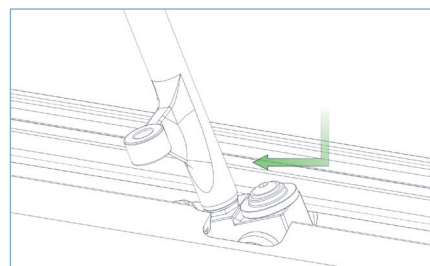

FIG 6B
- ▶ **6.2.** Place the bottom carriage and fork assembly into the bottom track as shown in FIG 6B. The fork should point to the outside if the doors are open out, and inside if the doors open in. Repeat this process until all bottom carriage assemblies have been installed.